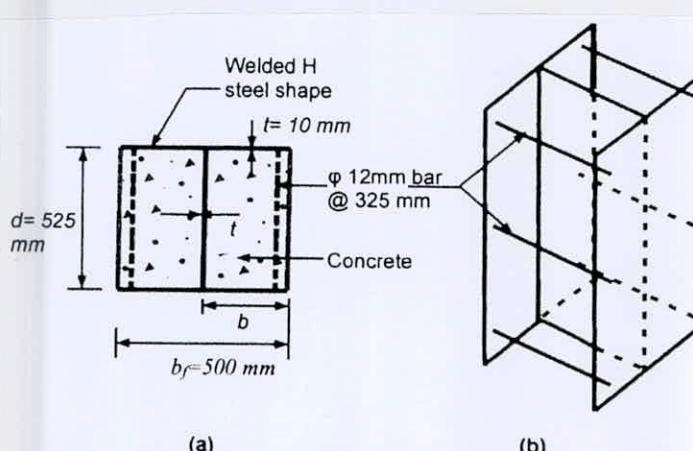

Fig.5
- (b) For the PEC column section shown in Fig. 5, **(18)**